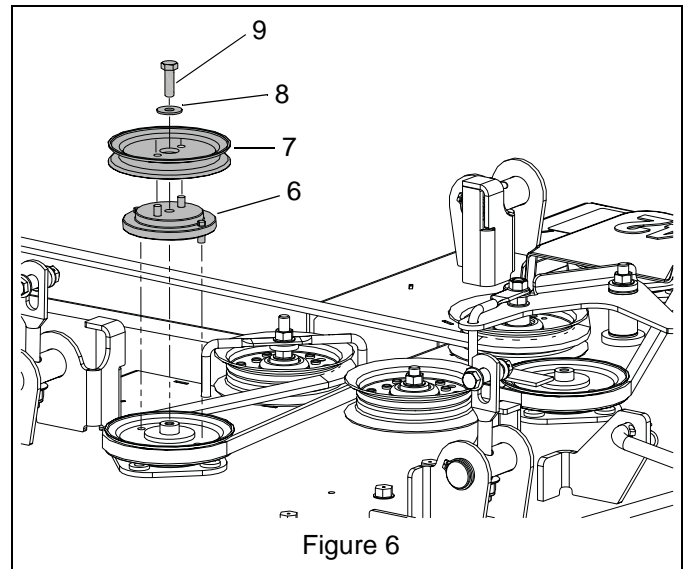

Figure 6
1. Align bottom pins of sheave adapter (item 6) with holes in spindle pulley and position adapter on top of pulley. See Figure 6.
2. Align holes in spindle sheave (item 7) with top pins in spindle adapter and position spindle sheave on top of adapter.
3. Secure adapter and sheave with one 5/16" flat washer (item 8) and one 5/16 x 1" grade 8 micro epoxy patch hex bolt (item 9).